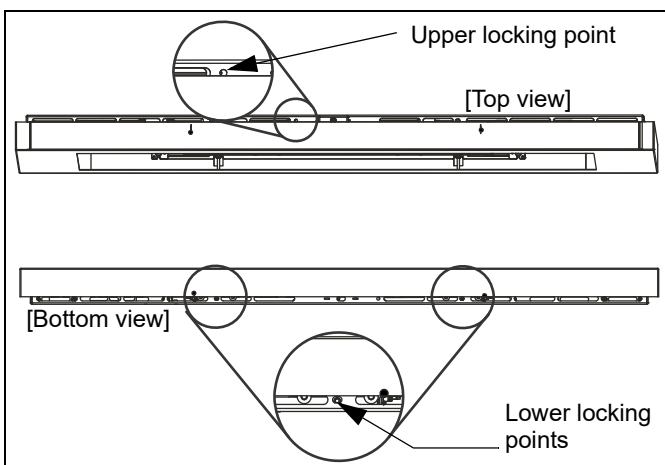

Figure 15
18. Add one 10-24 x 3/8" button head security screw (CB) in hole on top, AND two security screws in two holes on bottom to lock door. (See Figure 15)